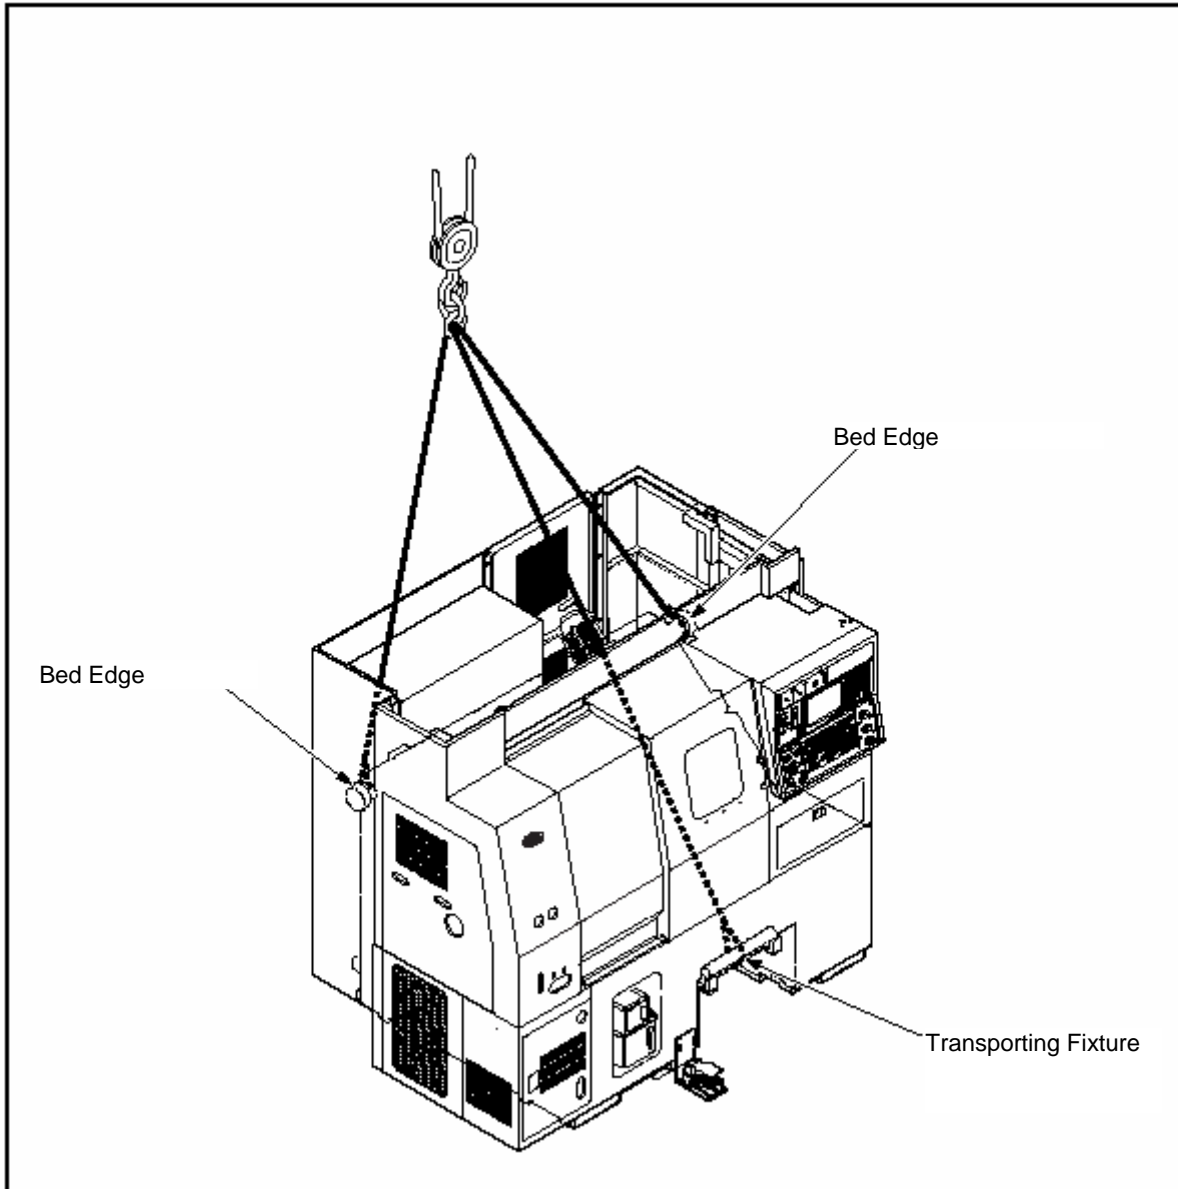

Fig. 4-2 Transport by Crane
- (1) The crane-working method is shown in Figure 4-2.
- (2) When transporting by crane, ensure the followings.